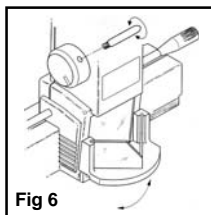

Fig 6
- To remove, slide the teaching mirror to the right of the pin and return to its case leaving mounting bar in position (Fig 6).